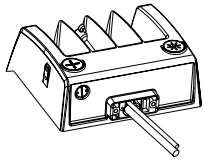

FIGURE 2.1
1. Take the fixture out of package (FIG 2.1)